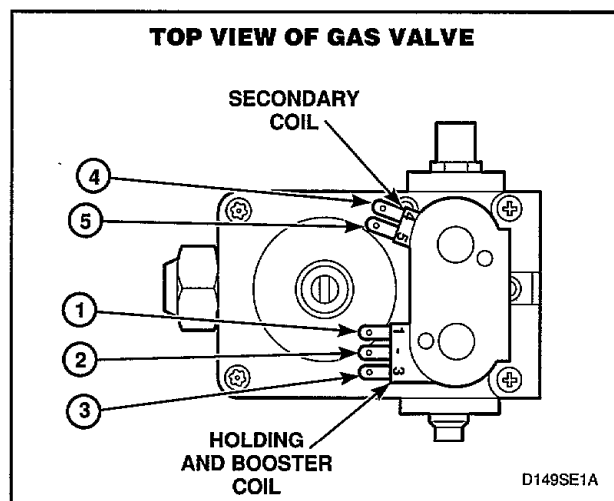

Figure 54
- Holding Coil** (see *Figure 54*)
- Booster Coil** (see *Figure 54*)
- Secondary Coil** (see *Figure 54*)